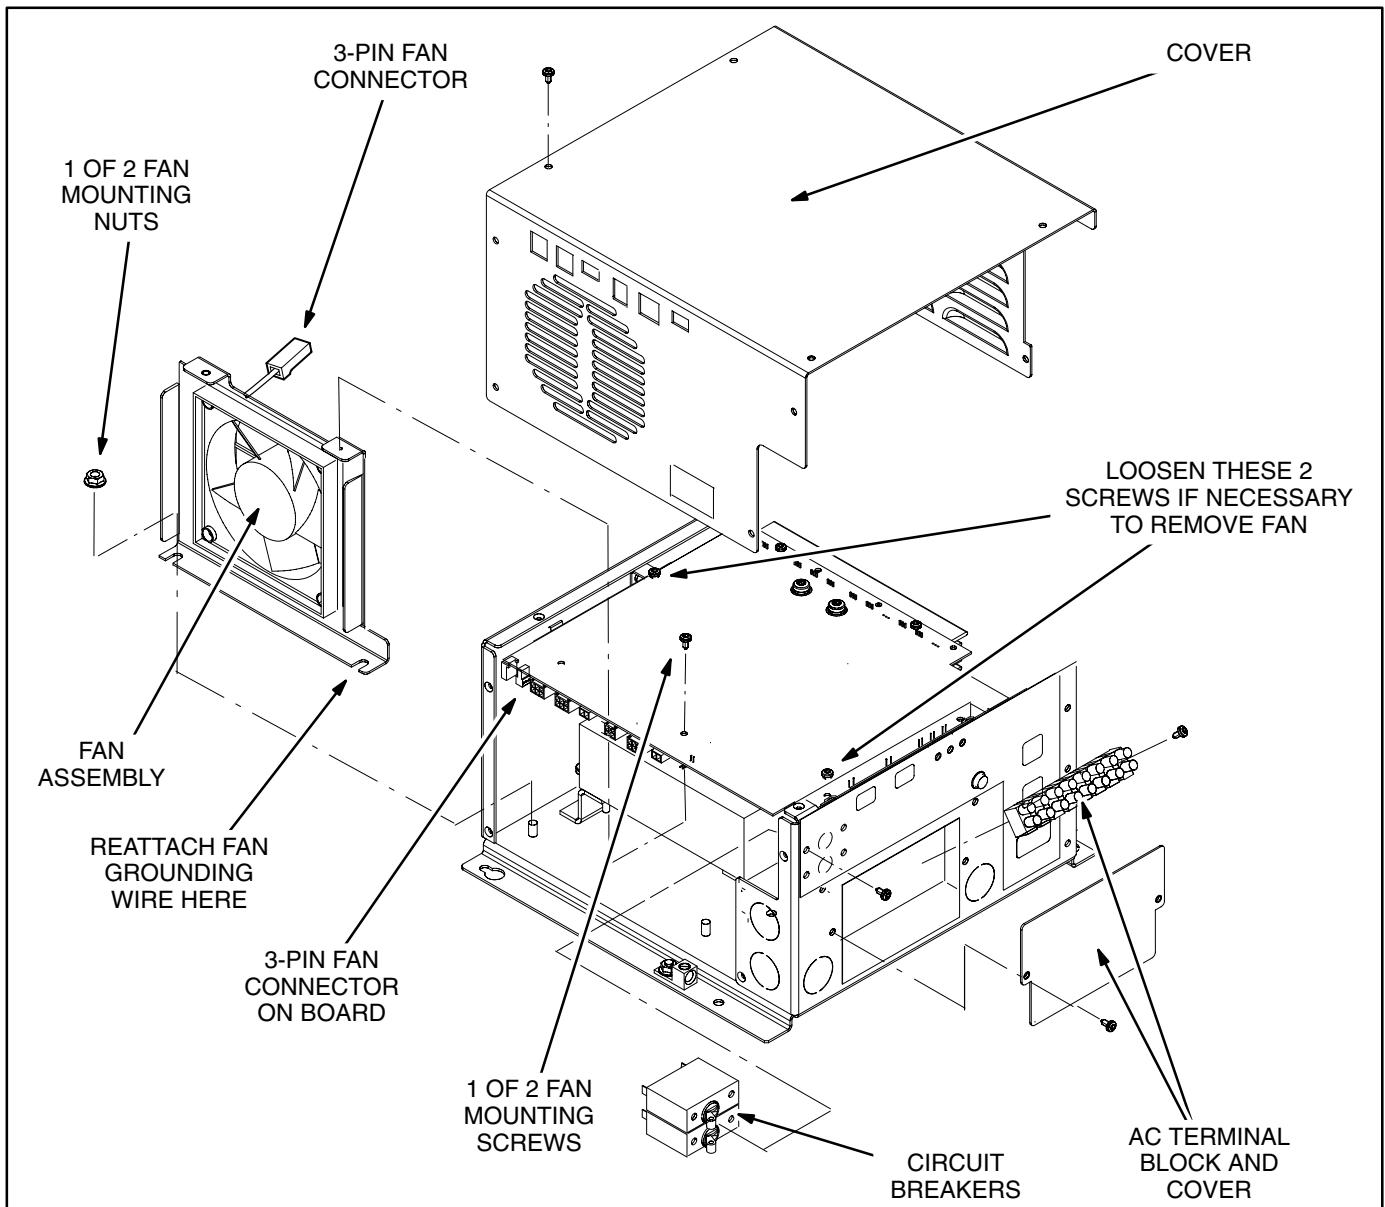

FIGURE 7-1. REPLACEABLE PARTS OF THE INVERTER-CHARGER
Replace the fan assembly in accordance with the following steps. Refer to Figure 7-1.
9. Remove the fan assembly mounting hardware: 2 screws (T20) to control board and 2 nuts (10 mm) to base and withdraw the assembly. (It may be necessary to loosen the 2 control board mounting screws pointed out in Figure 7-1 to enable withdrawal of the fan assembly.)
Replace the circuit breakers in accordance with the following steps. Refer to Figure 7-1.
Replace the AC terminal block in accordance with the following steps. Refer to Figure 7-1.